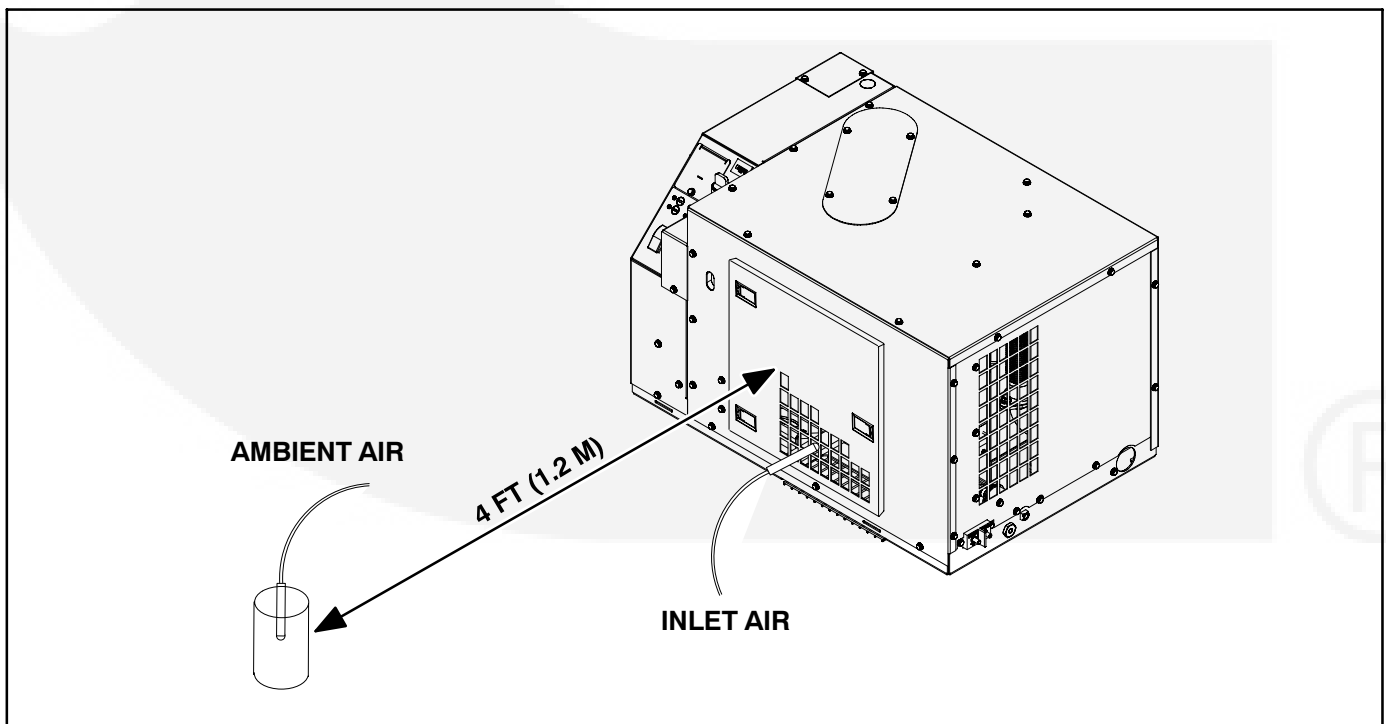

FIGURE 17. THERMOCOUPLE LOCATIONS FOR HOT AIR RECIRCULATION TEST
- A. Measure genset inlet air temperature with one thermocouple tied in the middle of the inlet air grille (Figure 17).